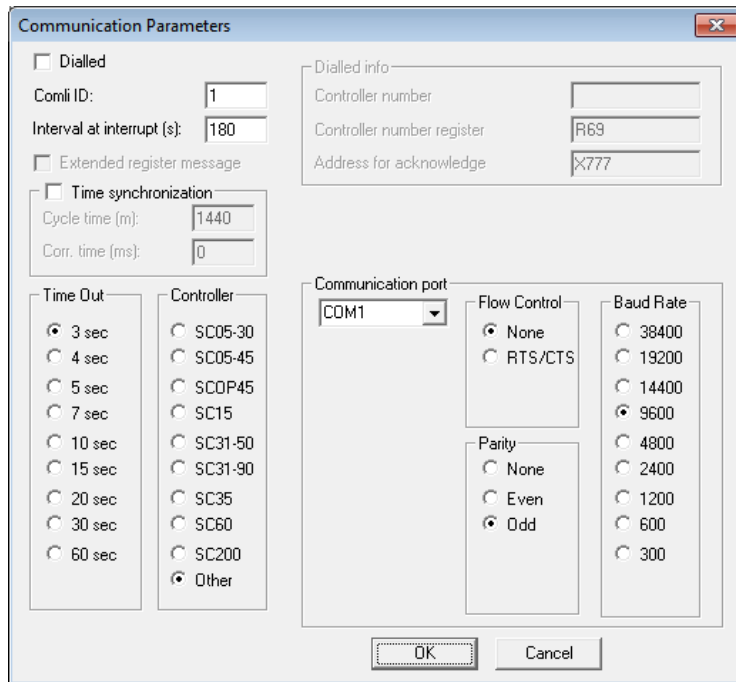

Figure 19. Communication Parameters for Comli
- In the displayed dialog box, edit the driver configuration for the selected communication protocol as shown in Figure 19.